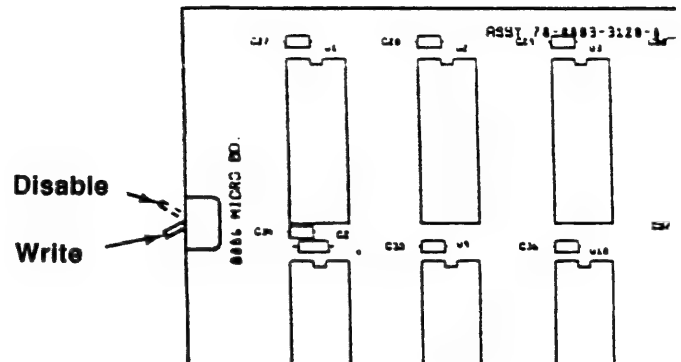

Figure 2-6.A
- g. Switch the Write/Disable Switch on the Micro PCB in the Page Search Module to the Write (down) position (Figure 2-6.A).